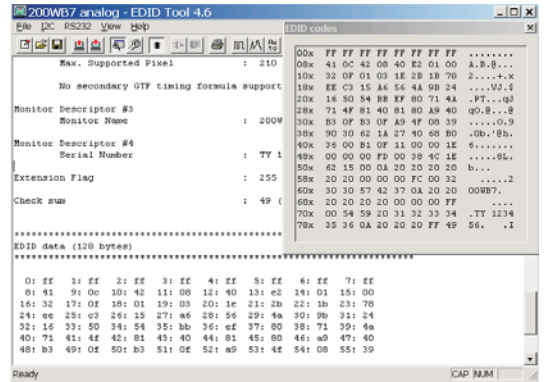

Fig. 13
4. Click icon (Read EDID function) to read DDC EDID data from monitor. The EDID codes will display on screen as shown in Fig. 13.